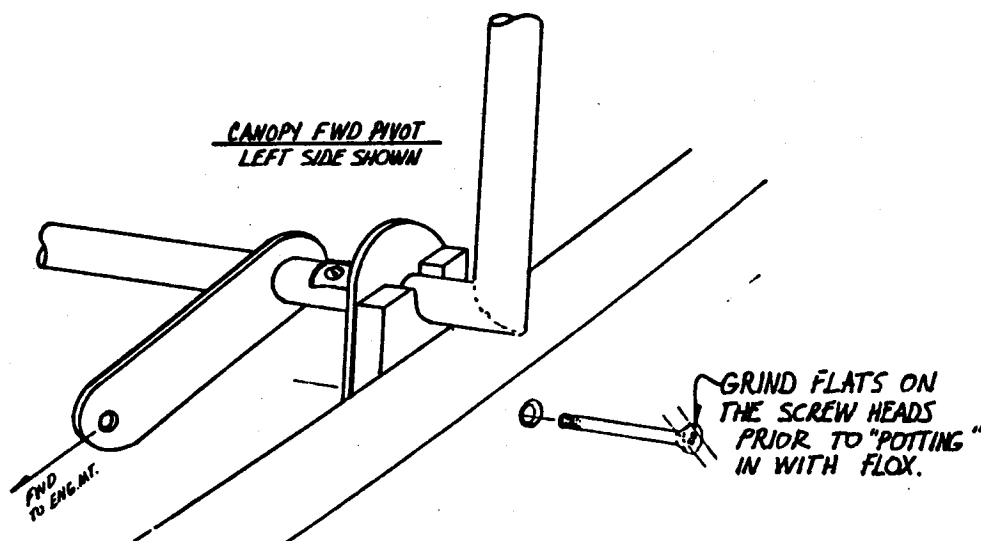

fig.242
29. Grind a large "flat" on the side of the machine screws that will be "potted" into the longeron from the outbd side thus forming "studs" protruding on the inside. See fig. 242. The "flat" is to prevent the machine screws from possibly spinning when the lock nuts are screwed on.